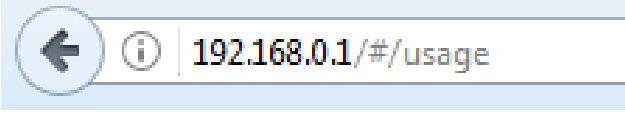

Figure 13
Step 19: Open a Web Browser on the PC and type **192.168.0.1** in the address field and press Enter to visualize the Terminal’s homepage (fig. 13)